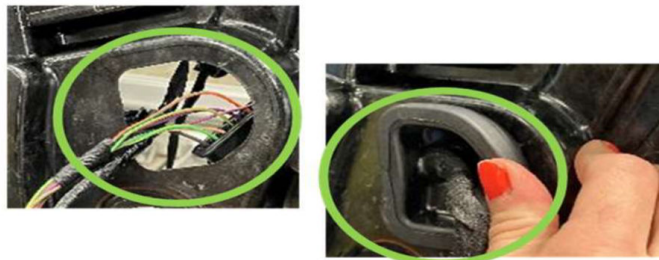

Fig. 31
34. Feed the wire for the latch and the passive entry antenna through the D grommet hole Fig. 31.
35. Seat the D grommet to the carrier plate Fig. 31.